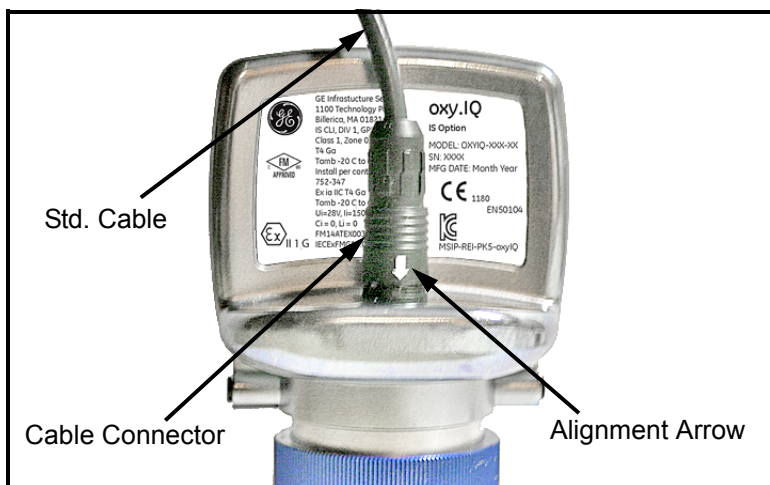

Figure 5: oxy.IQ Cable and Connector
1. Attach the appropriate cable to the oxy.IQ (see *Figure 5* below). Be sure to align the white arrow on the cable connector with the white arrow on the oxy.IQ connector, and then push the top of the cable connector straight down onto the mating connector on the rear of the electronics module until you hear it click into place.